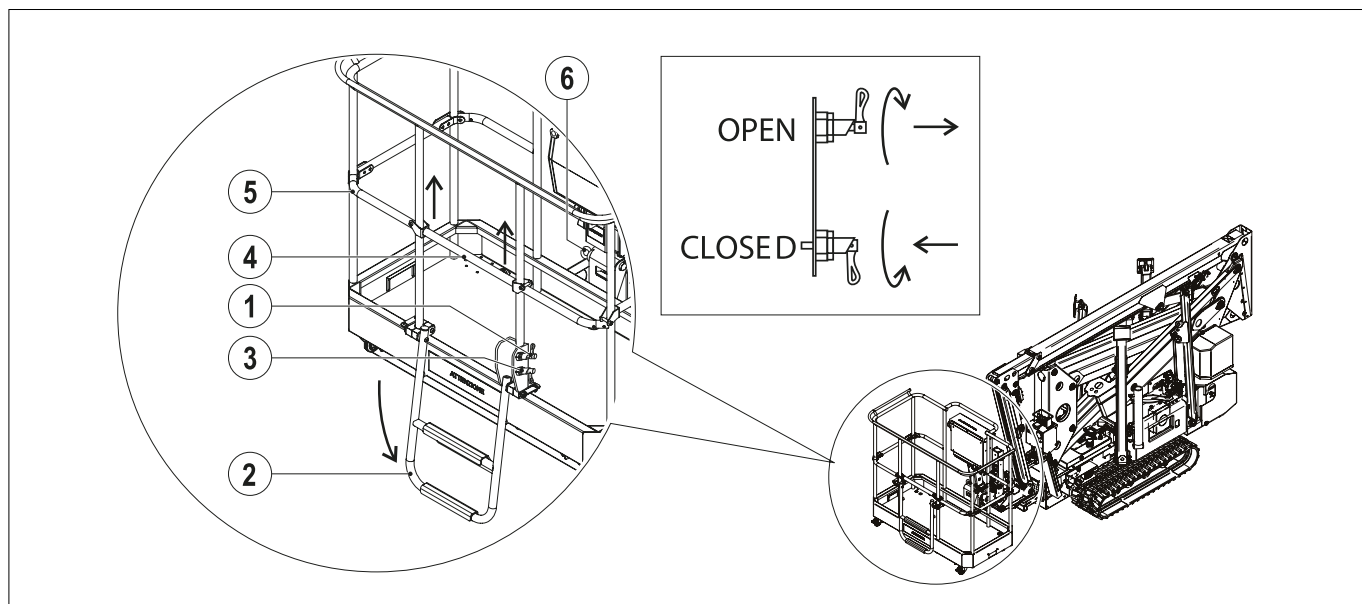

FIG. 30 (Climbing onto the work platform)
- 1) Rotate the upper safety lever (FIG. 30 - Ref. 1) which secures the access ladder to the work platform
- 2) Rotate the access ladder (FIG. 30 - Ref. 2) towards the outside of work platform
- 3) Rotate the lower safety lever (FIG. 30 - Ref. 3) to secure the access ladder
- 5) Lift the sliding rail of the work platform (FIG. 30 - Ref. 4)
- 6) Access the work platform (FIG. 30 - Ref. 5) and make sure that you close the sliding rail securely
- 7) Attach the snap hook of the harness onto one of the anchorage points (FIG. 30 - Ref. 6)
- 8) Rotate the lower safety lever (FIG. 30 - Ref. 3) to release the access ladder
- 9) Rotate the access ladder (FIG. 30 - Ref. 2) towards the work platform
- 10) Rotate the upper safety lever (FIG. 30 - Ref. 1) which secures the access ladder to the work platform